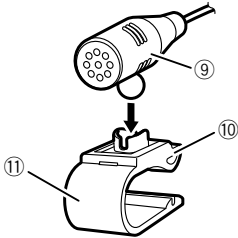

Fig. 7
1. **Install the microphone on the microphone clip. (Fig. 7)**
- ⑨ Microphone
- ⑩ Microphone clip
- ⑪ Microphone base